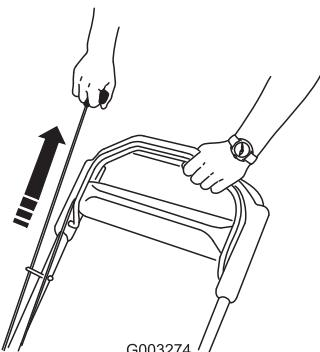
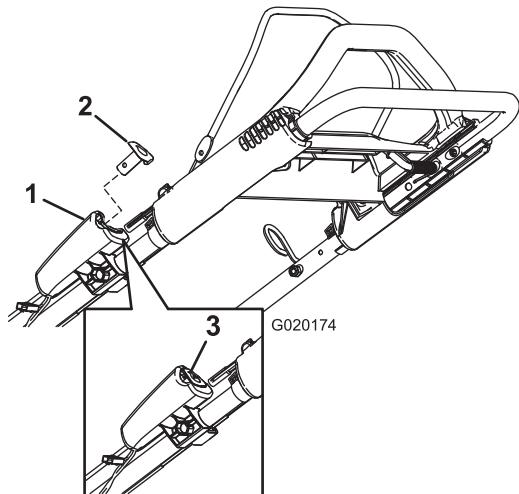

Figure 17
Figure 16
- Push the electric-start button (electric start model only) (Figure 16) or pull the recoil-start handle (Figure 17).
Note: If the electric-start button has been removed, insert it in the electric starter; refer to Figure 16 (electric-start model only).